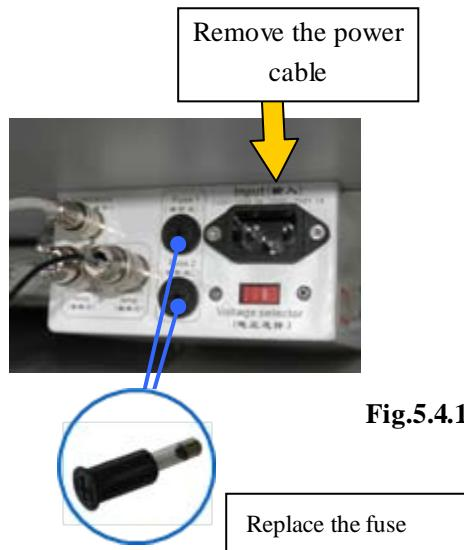

Fig.5.4.1
1. Turn off the main power switch (Fig.3.1.3), remove the power cable from the socket. (Fig.5.4.1).
2. The fuse is inserted in the fuse box which has fuse mark. Please rotate the fuse part out (Fig.5.4.1) by pressing the fuse box with a screw or a coin. One fuse is in use, the other is in spare. Please check them, if the one in use is burnt, please replace it with the spare one and then place both the two fuse parts into original place.